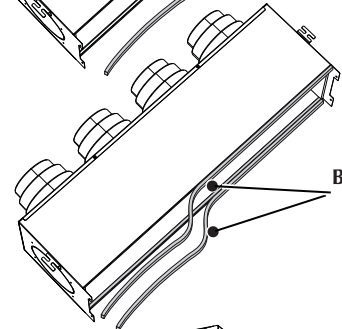

Fig.3
- Use the four screws provided to fasten the PM_V accessory to the unit flow vent (fig.3).